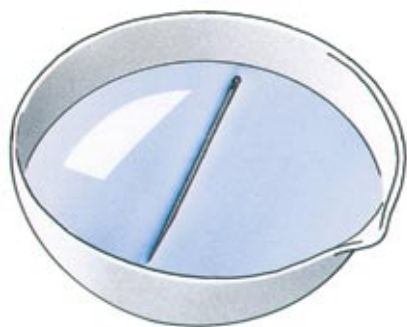

FIGURE 167: Water has skin.
3. Look closely. You will notice that the needle sinks a little into the water, forming a sort of trench. It really does look as if the water had an elastic skin that stretches a little under the weight of the needle (Fig. 167). You will notice the same thing if you look closely at a water strider (Fig. 168).